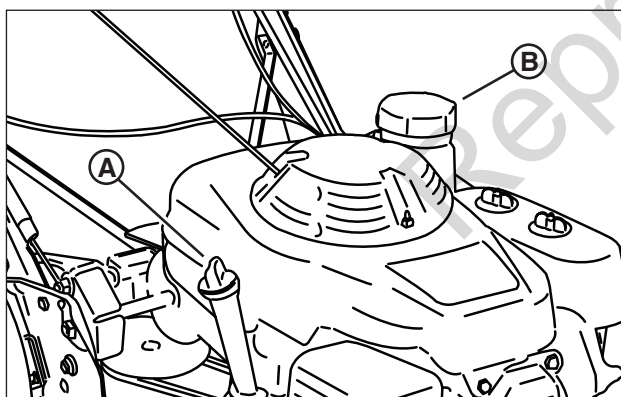

Figure 2: Oil and fuel fill
4. Check the engine oil **(A, Figure 2)** and add oil as needed to bring the level up to the full mark. Refer to the Engine Owner's Manual for oil specifications and procedures.
- Remove the fuel fill cap **(B, Figure 2)**.